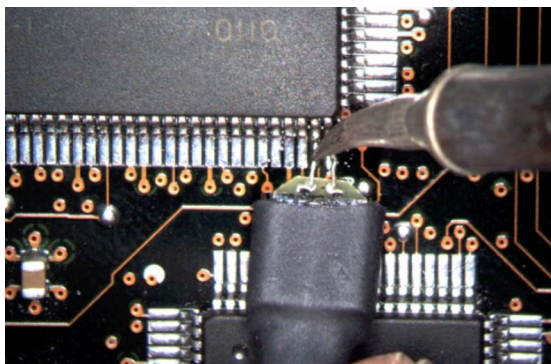

Figure 36 Positioning Wires
- 5 Position the probe head wires on the DUT leads and quickly re-flow the solder as shown in Figure 36.